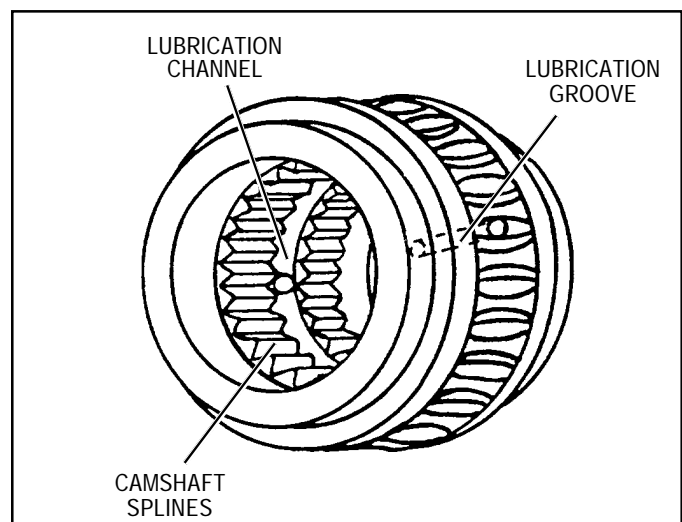

FIGURE 8 - WORM GEAR LUBRICATION
**Note:** This pre-installation lubrication on those ASA-5's equipped with a lubrication groove cut in the splines of the worm gear requires the temporary insertion of a "dummy camshaft spline" in the worm gear, or the lubrication of these units must be performed with the slack adjuster installed on the brake camshaft. (Refer to Figure 8.)